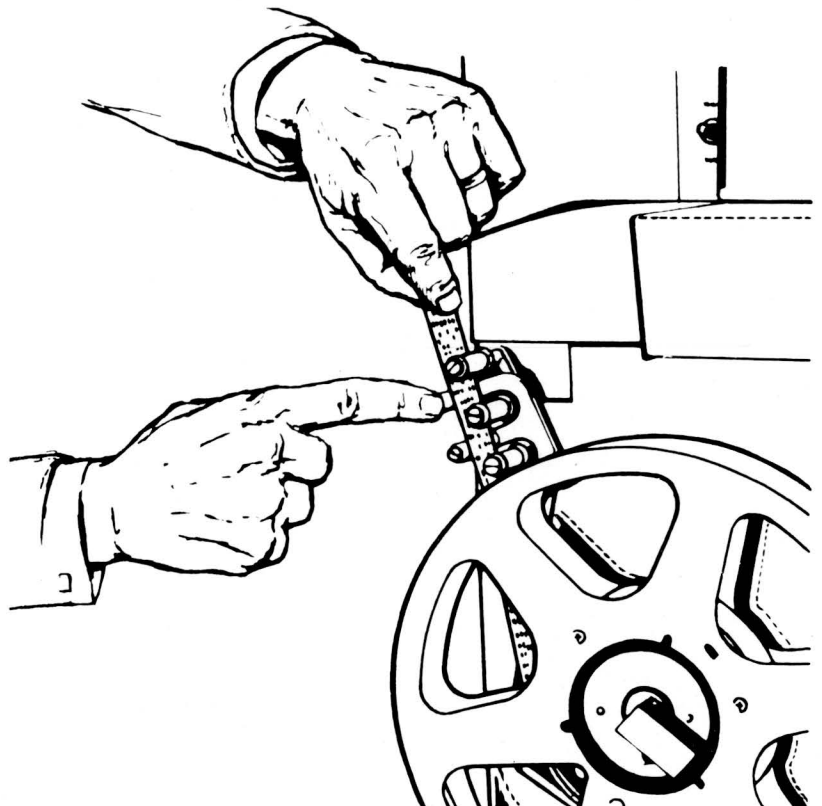

Figure 20
| <p>Step 1 Switch the tape handler POWER switch to OFF.</p> <p>Step 2 Switch the tape reader POWER switch to LOAD.</p> <p>Step 3 Pull the reel hub latches forward to the fully open position.</p> <p>Step 4 Fit the reel of tape to be read on the righthand (supply reel) hub and an empty reel on the lefthand (take-up reel) hub and close the reel hub latches.</p> | <p>Step 5 Pull a few feet of tape leader of the supply reel.</p> <p>Step 6 Move the supply reel tape tension arm to the right as far as it will go and place the tape between the fixed and moving guides as shown in Figure 20.</p> <p>Step 7 While holding the tape, as shown in Figure 20, allow the tension arm to return to its original position. (More tape will be pulled of the reel to form tape loops between the fixed and moving guides).</p> |
- Step 11 Pull the take-up reel tension arm to the left as far as it will go and place the tape between the fixed and moving guides, as shown in Figure 20, before allowing the tension arm to return to its original position.